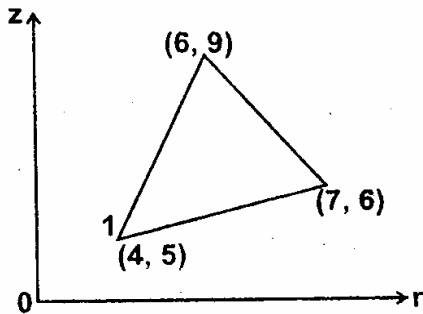

figure 4.4
4. Determine the element strains for an axisymmetric triangular element shown in figure 4.4. The nodal displacements are $u_1= 0.001$, $u_2= 0.002$, $u_3= - 0.003$, $w_1= 0.002$, $w_2= 0.001$, $w_3= 0.004$. All dimensions are in cm.